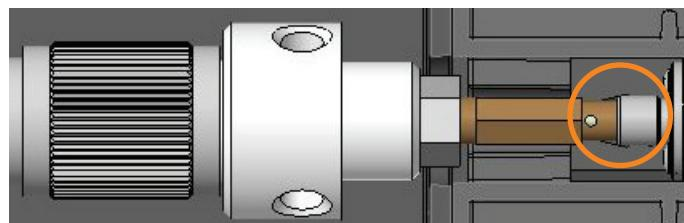

Figure 37. Cross section of the flow cell properly inserted into the UV detector.
- a. Insert the flow cell cone straight into its housing inside the UV detector; see the highlighted section in Figure 37.